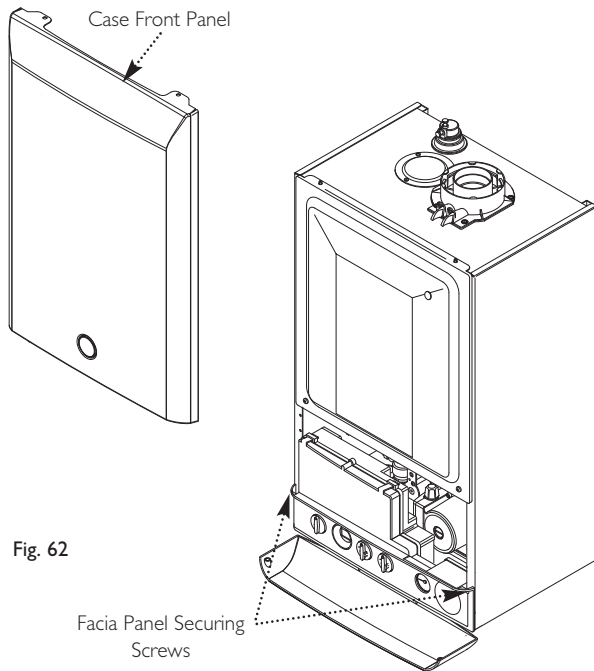

Fig. 62
3. Slacken the screws securing the fascia panel. Lift the outercase panel so that its securing tabs are clear of the fascia. Remove the panel, allowing the fascia to hinge down (Fig. 62).